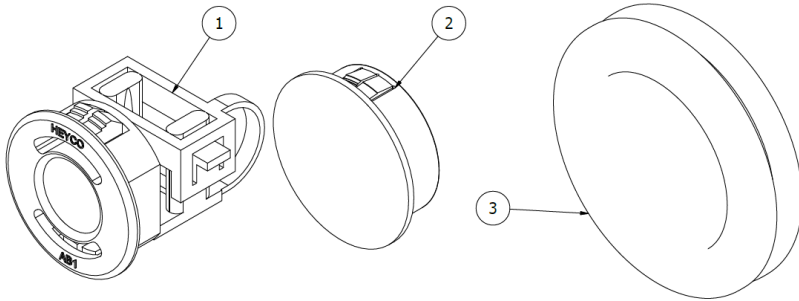

Figure 8: Cable and tube interfaces
- Move the cable strain relief fittings to the side you wish to make the entries / exits. Cover all other holes in the enclosure with the supplied blanking grommets. (Figure 8).